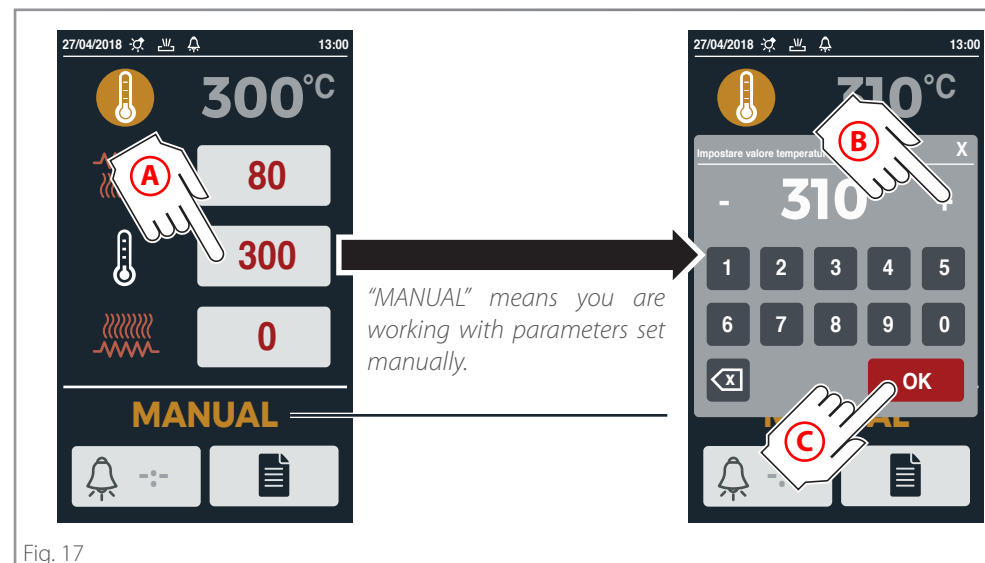

Fig. 17
- **Fig. 17** entering **manually** the **preheating temperature** and the desired **top and bottom power** (see table on page 8, cooking information).
Entering the recipe parameters manually ► Fig. 17